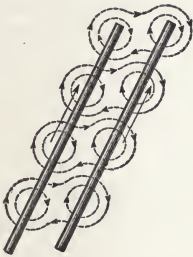

FIG. 23.
27. Two parallel conductors, both transmitting currents of electricity, are either mutually attractive or repellant, depending upon the relative direction of their currents. If the currents are flowing in the *same* direction in both conductors, as represented in Fig. 23, the lines of force will tend to surround both conductors and contract, thus *attracting* the conductors.